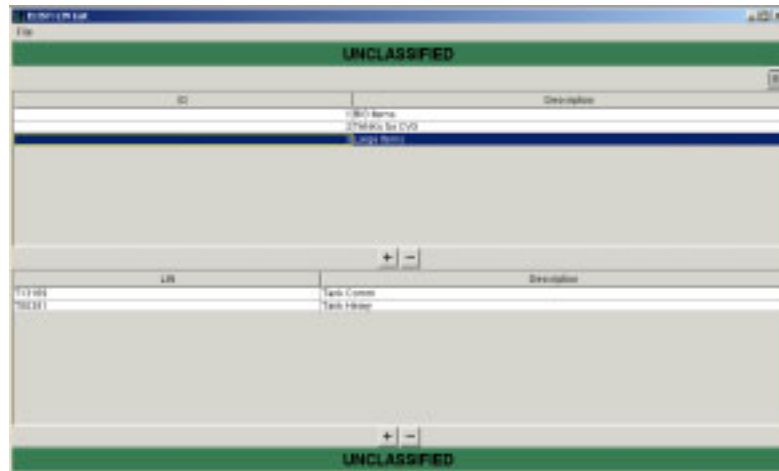

Figure 5.190 ELIST: LIN List Window
2. On the ELIST: LIN List window, in the upper panel, click the ID (i.e., 1, 2, and so forth) of the LIN list from which you want to delete items. The selected line is highlighted, and the items in the LIN are displayed in the lower panel (Figure 5.190).